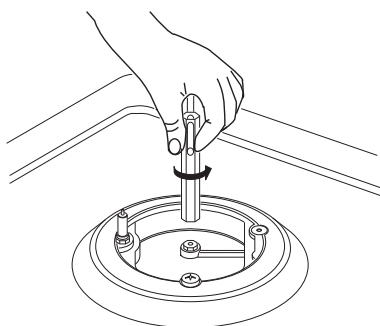

Fig. 1A
- put the profile (F) on the rear part of the cooker as in fig. 1, and screw the delivered screws (V) as in fig. 1A.
- change the injector (see Fig. 1A) and replace it with another one suitable for the new type of gas (see tab. 1)